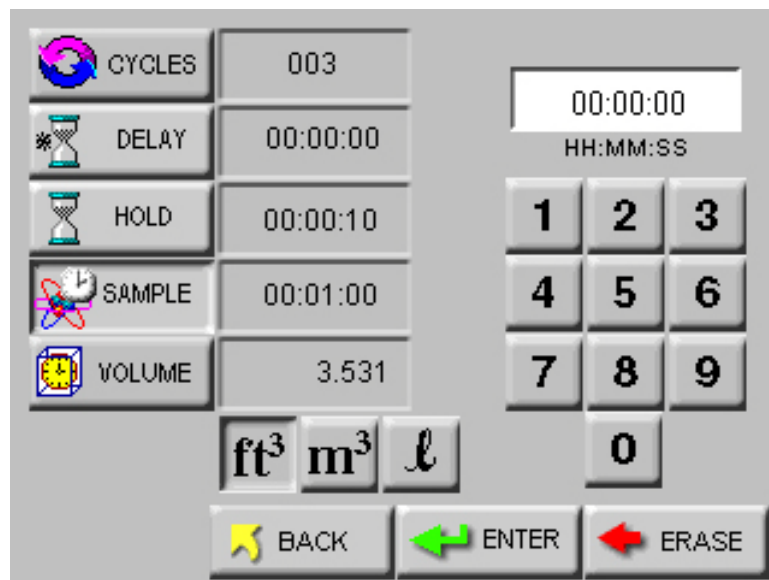

Figure 4-75 Reports Sample Screen
- Select the SAMPLE button to configure the number of Cycles, Delay time, Hold time, Sample time and Volume. See Figure 4-75.